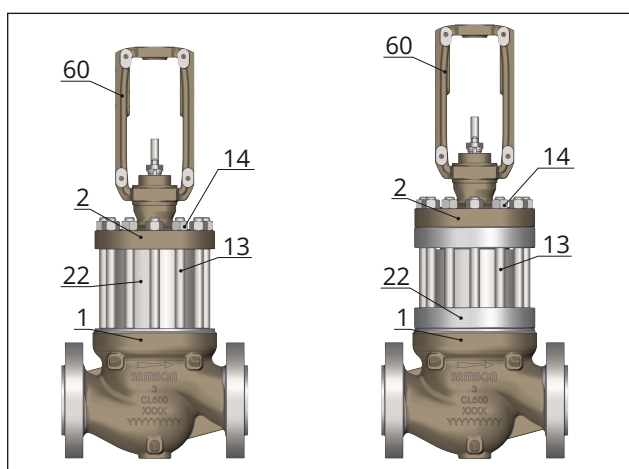
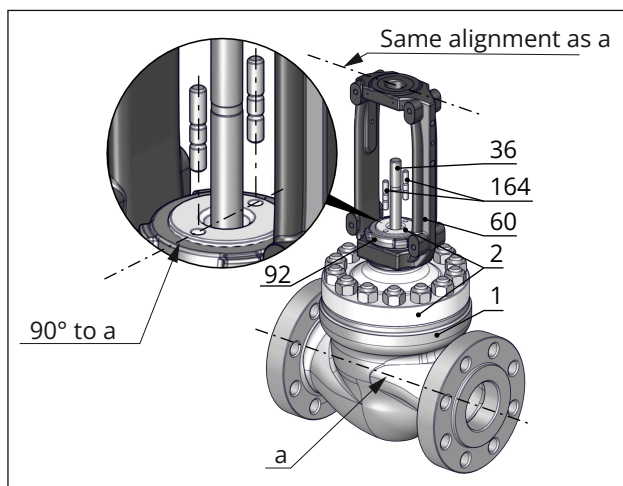

Fig. 23: Mounting versions of the intermediate piece
Fig. 26: Alignment of bonnet on the valve body and alignment of yoke on the bonnet
1. Place the valve bonnet (2) including yoke (60) from the top vertically over the plug stem (36) (depending on the version, see Fig. 23) on the intermediate piece (22) without fastening it. Observe the alignment (see Fig. 26). The two boreholes on the top of the bonnet must be at a right angle to the pipeline axis.
2. Firmly press the plug (5) into the seat (4). At the same time, fasten the valve bonnet (2) using the body nuts (14). Tighten the body nuts (14) gradually in a crisscross pattern. Observe tightening torques.
1. Remove the valve bonnet (2), see section "a) Removing the standard bonnet" in Chapter 9.4.1.
2. Pull all the packing parts out of the packing chamber in the valve bonnet (2) using a suitable tool.
3. Remove the spiral wound gaskets (17, 126) from the intermediate piece (22) and cylinder (463) or valve bonnet (2).
4. Use the special tool to remove the cylinder (463) upward out of the intermediate piece (22). During the removal procedure, press the plug stem (36) downward. This helps overcome the static
- friction between the seal (45) and plug (5) to ensure that the trim remains in the body (1).
5. Pull the plug (5) and plug stem (36) upward out of the liner (424) and remove them from the valve body (1) and intermediate piece (22).
6. Remove the liner (424) upward out of the valve body (1) and intermediate piece (22).
7. Depending on the mounting version of the intermediate piece (see Fig. 23), lift the intermediate piece (22) off the valve body (1).
8. Remove the spiral wound gasket (17) from the valve body (1).
9. Remove the seat (4) from the valve body (1).
10. Remove the flat gasket (197) from the seat (4).
11. Remove the spiral wound gasket (127) from the valve body (1).